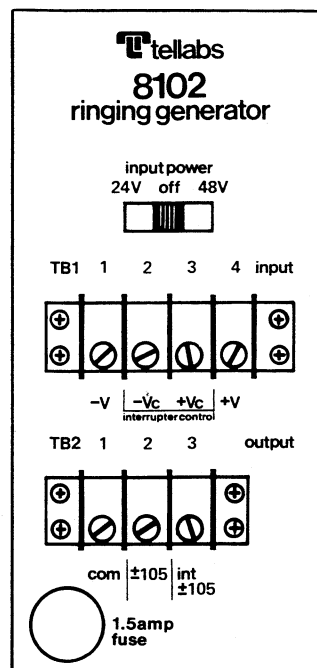

figure 2. Rear view of 8102
2.04 All input and output connections to the 8102 are made to barrier-type screw-terminal blocks *TB1* and *TB2*, respectively, on the rear of the unit. Using 20AWG or heavier wire, make all connections to the 8102 as indicated in table 1 and figure 2.